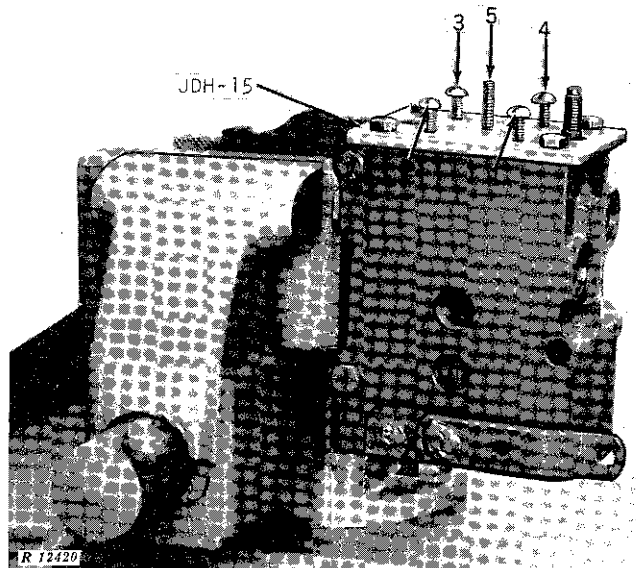

Fig. 230-10-11—JDH-15 Adjusting Plate
Install JDH-15 adjusting plate on control valve end of selective control valve (Fig. 230-10-11). Turn the centering cam pin lock screw (5) in tight. Turn the valve locking screws (1), (2), (3), (4), in to lock all the valves on their seats using 12-in.-lbs torque on each screw.